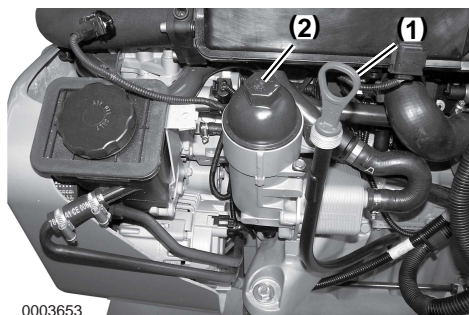

Figure 1
3. NOTICE: Prevent dirt and debris from contaminating engine oil. Carefully clean the dipstick and the surrounding area before you remove the cap. Loosen the engine oil filter cap (**Figure 1, (2)**) 1 - 2 turns with a socket wrench. Allow to sit a few minutes to allow oil to drain into crankcase.
4. Remove the engine oil dipstick (**Figure 1, (1)**). Attach an oil drain pump and pump out the oil. Dispose of waste properly.